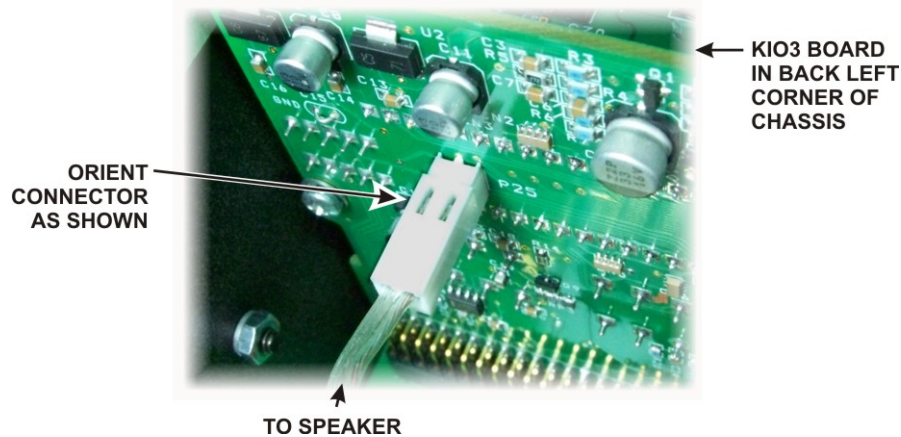

Figure 7. Connecting the Speaker Cable.
- Hold the top cover above the K3, route the speaker wire under the stiffener bar and plug it into P25 on the KIO3 board at the left rear of the K3 as shown in Figure 7.